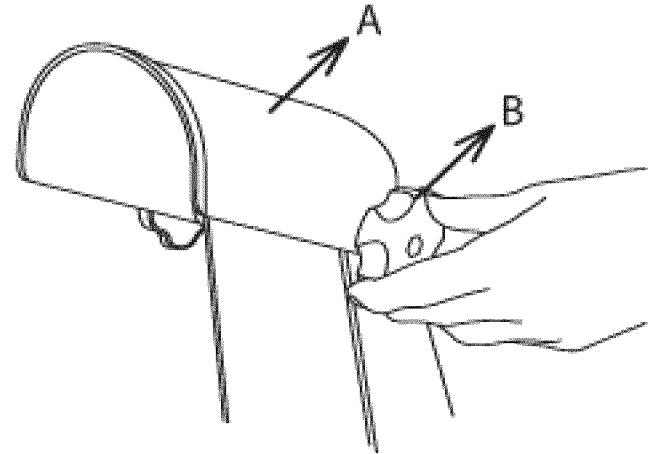

Figure 12
2. Raise or lower the chute deflector to the desired height of the snow stream and tighten the chute deflector knobs (Fig. 12).